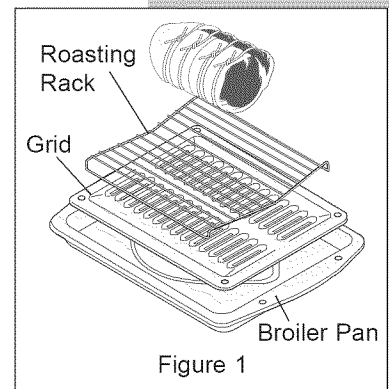

Figure 1
- Always use the broiler pan and its grid when broiling. It allows the dripping grease to be kept away from the high heat of the broil element (see Figure 1).
- Use the broiler pan and grid, and the roasting rack (Figure 1). The broiler pan will catch grease spills and the grid will help prevent spatters. The roasting rack will hold the meat.